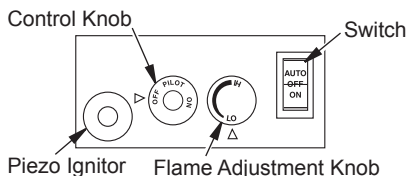

Figure 18 - Control Knob and Ignitor Button Location, Manual Controlled
4. Press in and turn control knob clockwise to the OFF position (see Figure 18).
5. Wait five (5) minutes to clear out any gas. Then smell for gas, including near the floor. If you smell gas, STOP! Follow "B" in the safety information, starting in column 1 of this page. If you don't smell gas, go to the next step.
6. Press in and turn control knob counterclockwise to the PILOT position. Press in control knob for five (5) seconds (see Figure 18).